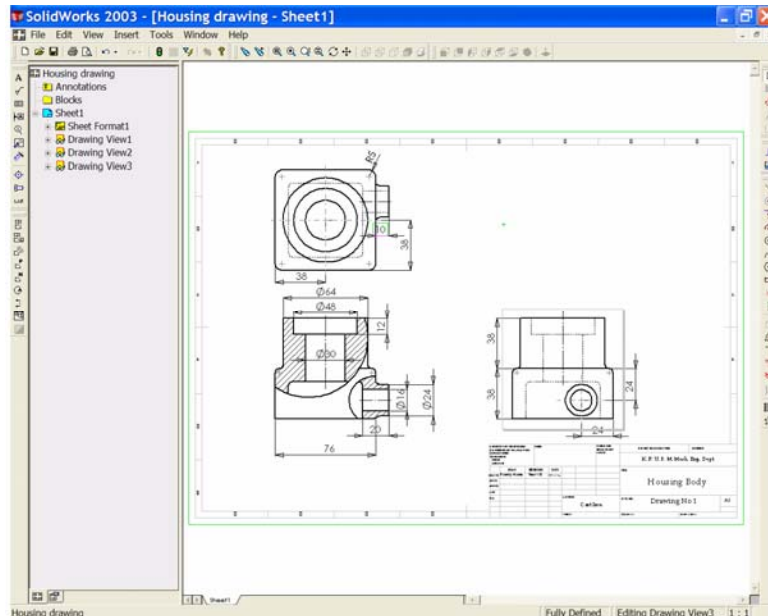

Figure 37
32. Other dimensions may be moved to better locations within a view by selecting them with the mouse, left clicking and hold as the dimension is dragged to a new position. When finished, your drawing should look similar to Figure 37.